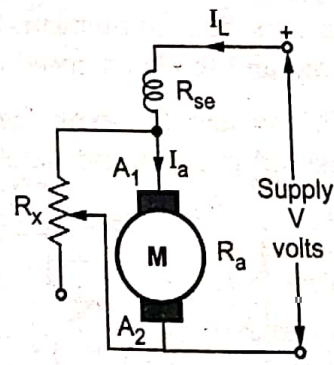

Fig. Q.52.3 Armature divertor
• An armature of the motor is shunted with an external variable resistance (R_x) as shown in the Fig. Q.52.3. This resistance R_x is called armature divertor.